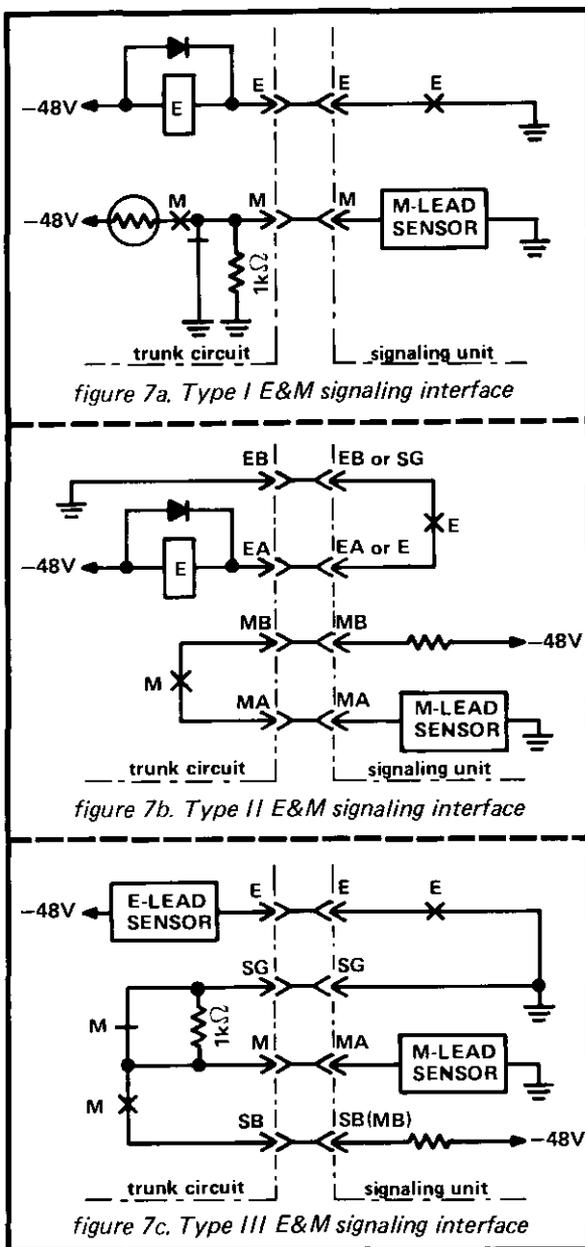

figure 7. E&M signaling interfaces
2.08 The 6047 and 6047A can each be switch-optional to derive either a Type I (single-lead) or a Type II or III (looped-signaling-lead) E&M interface. The conventional Type I interface is often used in electromechanical-switching-system (e.g., SxS) environments, while the newer Type II and III interfaces are often used in electronic-switching-system environments. The Type I and Type II interfaces can be used with either A-side or B-side E&M signaling (see paragraphs 2.09 through 2.13). The Type III interface can be used with A-side signaling only. Figure 7 shows the connections required for Type I, II, and III E&M signaling interfaces.